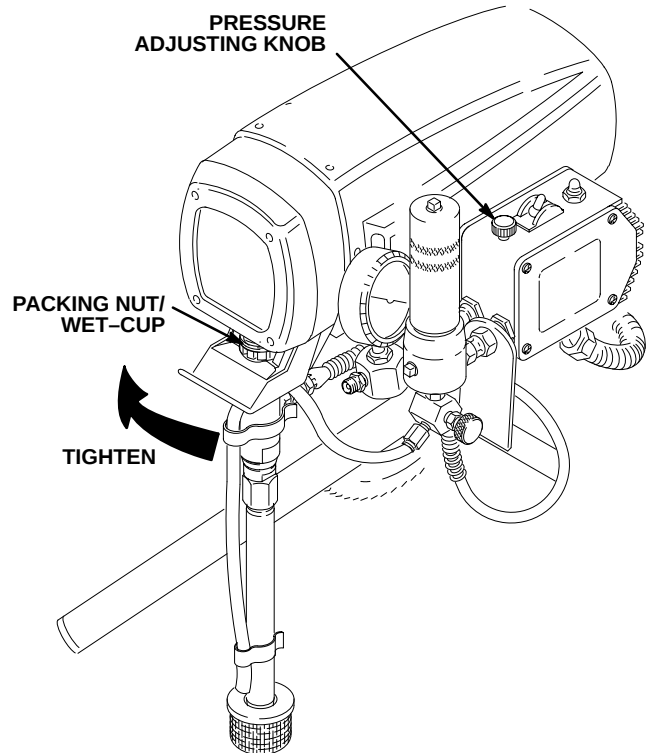

Fig 7
2. **Tighten the packing nut just enough to stop leakage.** Over tightening causes binding and excessive packing wear. Use a round punch or brass rod and light hammer to adjust the nut. Refer to Fig 7.